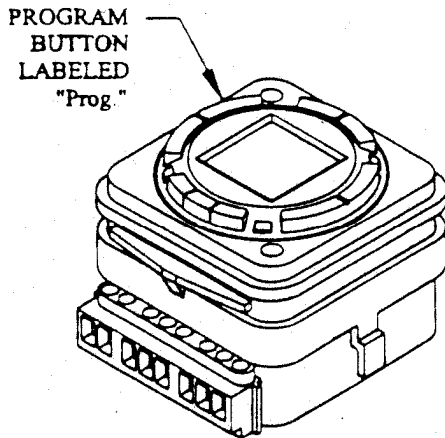
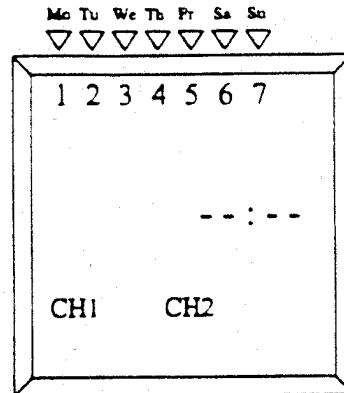

FIG. 3
FIG. 4
STEP 1. Press the program button, labeled "Prog." **DO NOT HOLD DOWN!** See Fig. 3. After releasing the program button, the following should be displayed on the screen as seen in Fig. 4.